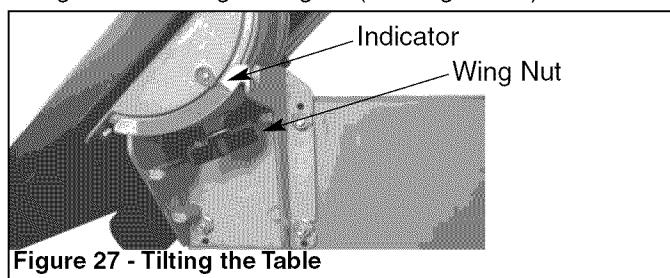

Figure 27 - Tilting the Table
Refer to Figure 27.
- To tilt the table, loosen the wing nut on the table trunnion, set the table to the required angle and tighten the wing nut again (see Figure 27).
Refer to Figure 27, page 10.